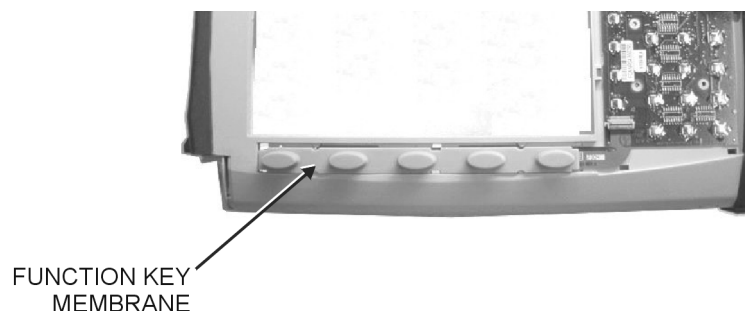

Figure 4-12. Function Key Membrane and Switchpad
4. Remove the function key membrane by gently pulling the membrane up and away from the front panel (Figure 4-12).